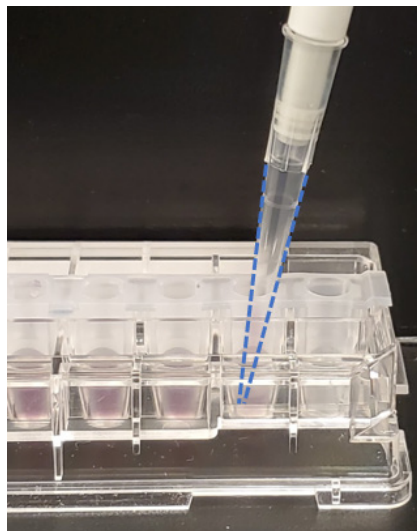

Figure 3. Pipette tip (outlined in blue) is inserted to the bottom of each well to dispense cell suspension.
- b. It is recommended to seed cells one well at a time in XF HS Miniplates – the pipette tip must be placed at the bottom of the well to dispense properly (Figure 3).